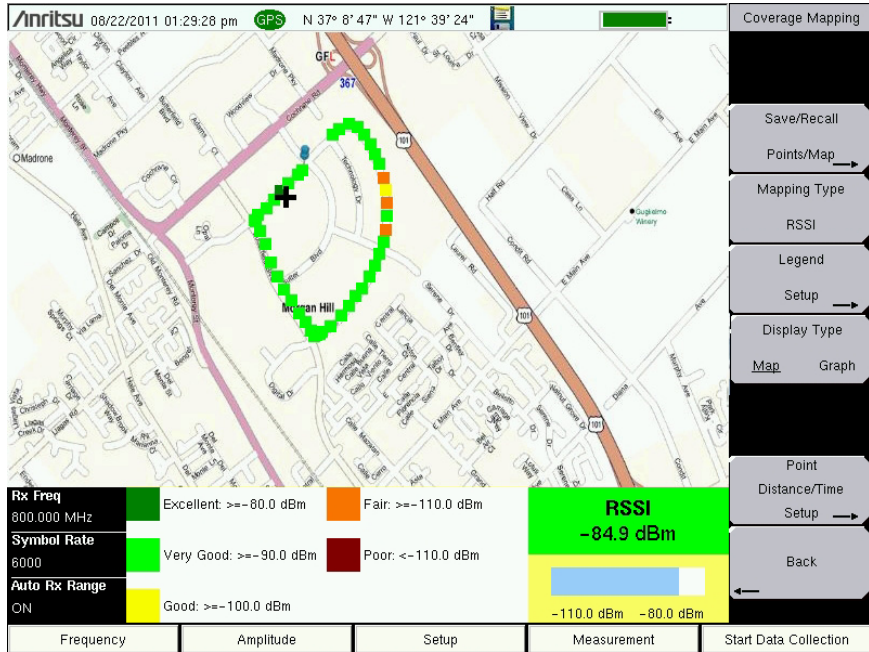

Figure 3-13. Coverage Measurements
1. Press the **Measurement** main menu key, then press the NBFM Coverage submenu key twice (Figure 3-13).
1. Press the **Measurement** main menu key, then press the P25 Coverage, P25p2 Coverage, NXDN Coverage, dPMR Coverage, DMR 2 Coverage, PTC Coverage, or TETRA Coverage submenu key twice (Figure 3-13).